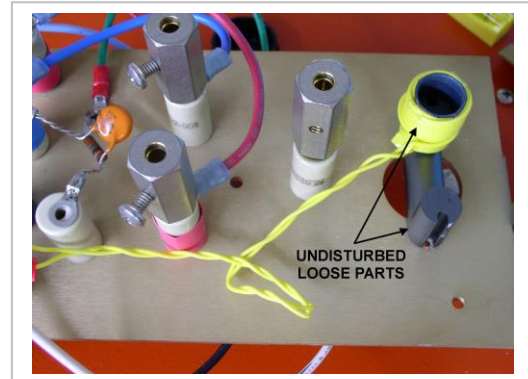

Figure 14b
- Lift the HV coil from the bottom half of the ferrite core and try to leave the rest of transformer parts in place as shown in Figure 14b.